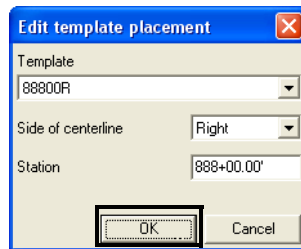

Figure 6-45. Enter Template Placement Information
2. Edit the desired information on the *Edit template placement* dialog box and press **OK** (Figure 6-45):